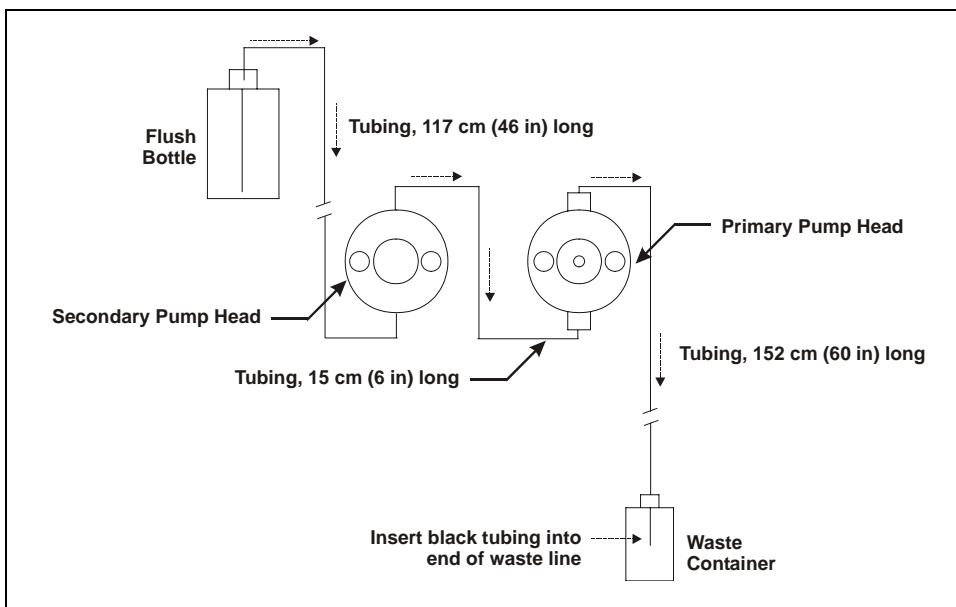

Figure B-48. Piston Seal Wash Flow Schematic
4. Install the tubing as follows (see Figure B-47 and Figure B-48):